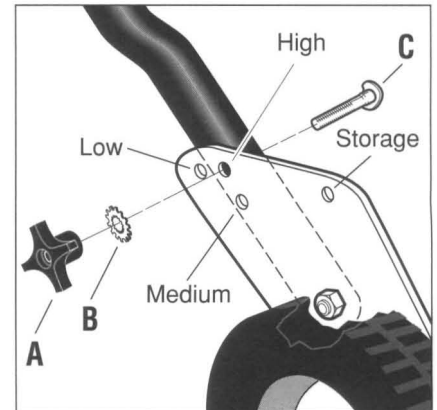

Figure 4-1: Handlebar height adjustment.
The handlebars are adjustable to one of three operating positions: **High**, **Medium** and **Low**. There is also a **Storage** position in which the handlebars are positioned upright. See Figure 4-1.
2. Refer to Figure 4-1 to select the appropriate height adjustment holes in the handlebar mounting brackets.
3. While supporting the handlebars with one hand, remove the knob (A), star lock washer (B), and curved-head screw (C) from each handlebar. If the handlebars will not pivot freely, use a 1/2" wrench to loosen the screw at the bottom of each handlebar.